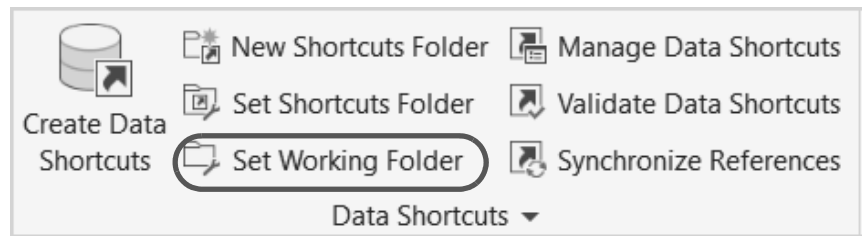

Figure 2–7
2. In the *Manage* tab>Data Shortcuts panel, click  (Set Working Folder), as shown in Figure 2–7.